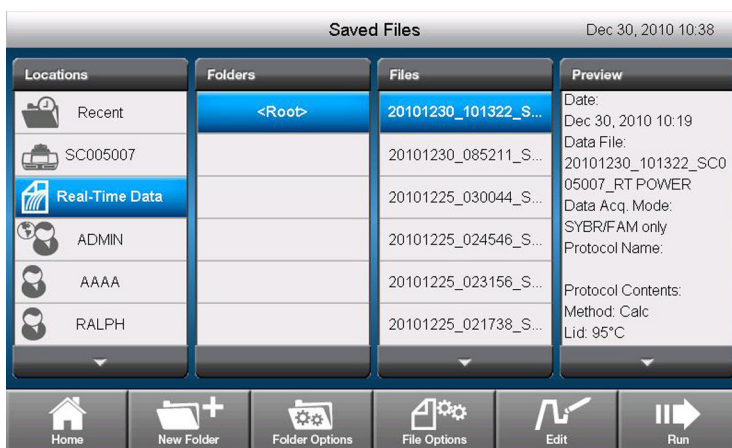

Figure 46. Selecting a real-time data file to export to a USB flash drive.
1. Touch **Saved Files** on the home screen to access the file folders (Figure 46).